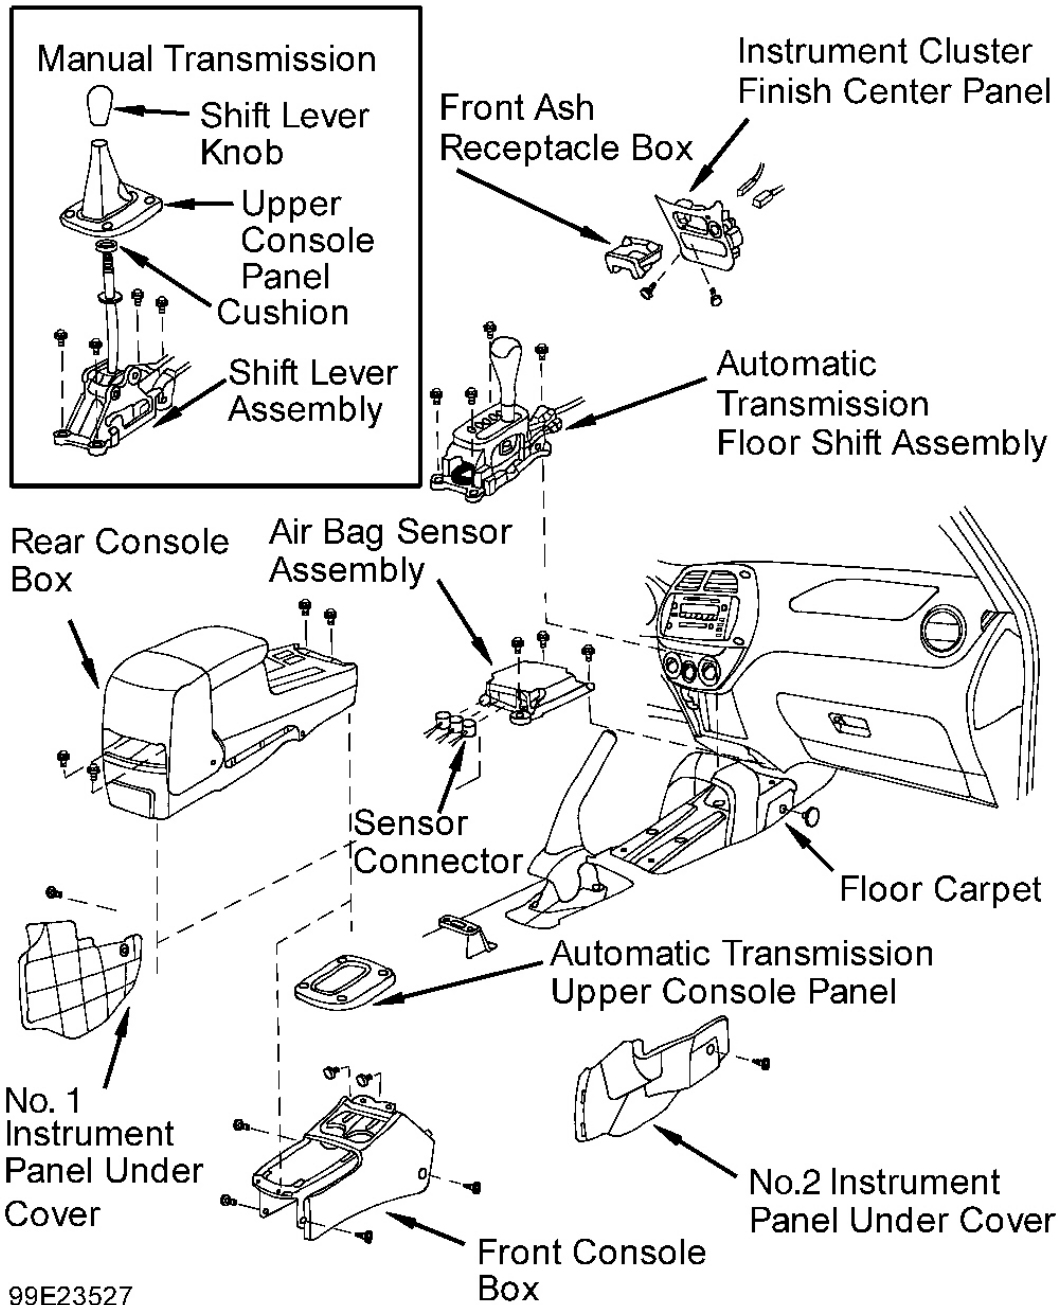

Fig. 10: Identifying Air Bag Sensor Assembly
2. Remove instrument cluster finish center panel. See **Fig. 10** . Remove upper console panel. Remove front and rear console boxes. Remove No. 1 and 2 instrument panel under covers. Remove shifter assembly. Remove 3 Torx screws retaining air bag sensor assembly. Remove air bag sensor assembly.